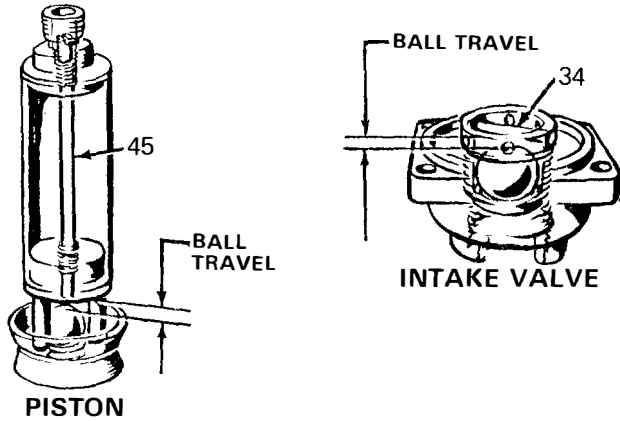

Fig 3
1. If heavy viscosity paint is used and erratic pump operation develops, increase ball travel in intake valve by moving pin (34) to center or upper set of holes, and in piston valve by backing out ball stop screw 2 complete turns or 0.28 in. (7.1 mm) total travel. See Fig 3.
2. If extremely light paint is used and surging develops, reduce surging effect by screwing in ball stop screw 2 complete turns or 0.09 in. (2.3 mm) total travel at piston valve. See Fig 3.